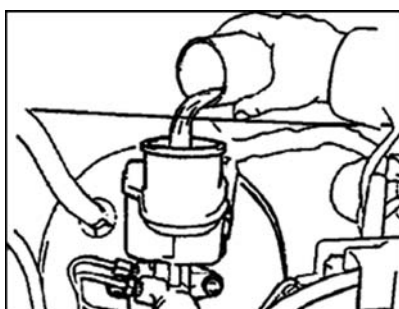

Fig. 2-39
1. Refill brake fluid into the reservoir (as shown in Fig. 2-39)